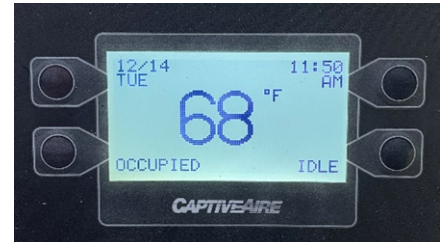
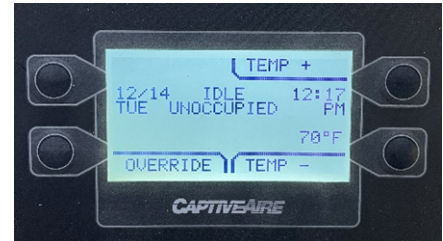

Figure 1 (HMI Screensaver)
Figure 2 (HMI Home Screen)
1. Press any button on the HMI when the screensaver (Figure 1) is active to get to the home screen (Figure 2).
Active faults are displayed on the HMI home screen (Figure 2) or can be accessed by navigating to USER SETTINGS → ACTIVE FAULTS.